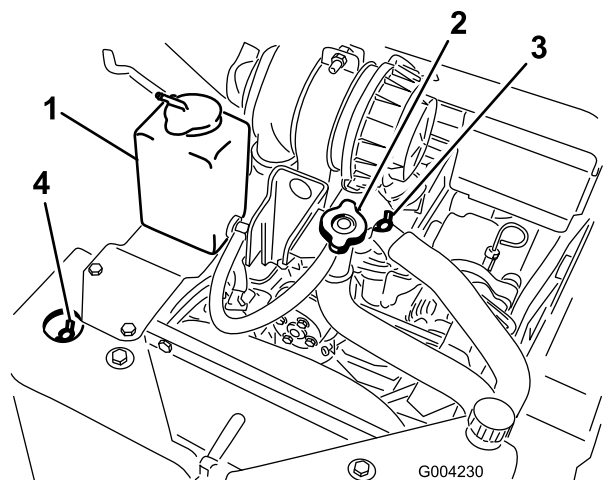

Figure 51
- A. Remove the coolant-fill cap (Figure 51).
- B. Open the front and top coolant-bleed valves (Figure 51).
- C. Pour coolant into the coolant-filler neck until the coolant begins to come out of the front coolant-bleed valve (Figure 51).
- D. Close the front coolant-bleed valve (Figure 51).
- E. Pour coolant into the coolant-filler neck until the coolant begins to come out of the top coolant-bleed valve (Figure 51).
- F. Close the top coolant-bleed valve (Figure 51).
- G. Pour coolant into the coolant-filler neck until the coolant level comes into the filler neck (Figure 51).
- H. Install the coolant-fill cap (Figure 51).
- I. Add coolant into the expansion tank until it reaches the Full mark on the side of the tank (Figure 51).